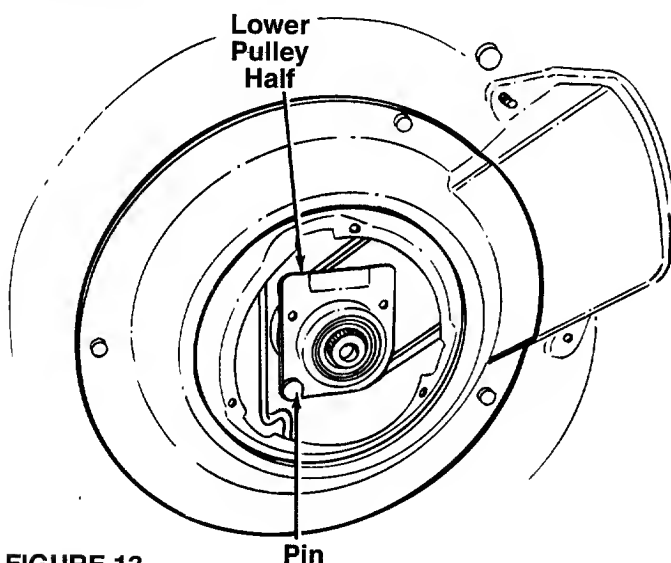

FIGURE 13.
8. Rotate the lower pulley half 90° clockwise (see figure 13) and remove from mower. Remove the belt from around the crankshaft.